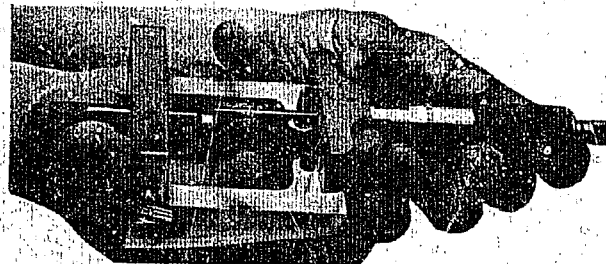

Figure 4 - Measuring TSE 79100 For "K" Dimension
- 2.7 With a suitable depth micrometer (2" spindle), measure the distance between top front side of dowel pins and footed pin (see Figure 4).